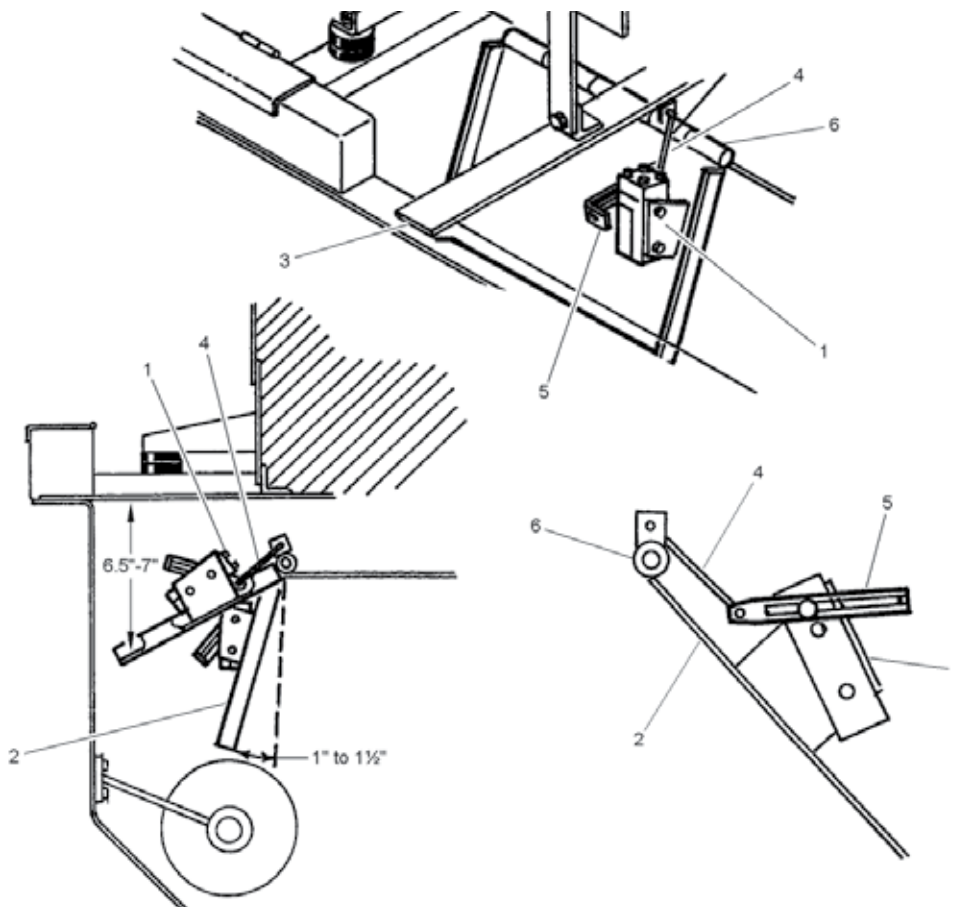

Figure 5-14. Conveyor Micro-Switch Location
In order for the conveyor's start and stop to occur at the correct position, small adjustments may be necessary to the micro-switch (**Figure 5-14,1**) located on the conveyor flap (**Figure 5-14,2**). There are two positions of the conveyor flap: one upper, shutting the conveyor OFF, and one lower, turning the conveyor ON. Read the following procedures carefully, referring to the figures as needed.
1. Raise the conveyor flap (**Figure 5-14,2**) 6-1/2 to 7 in. (16.5 to 17.8 cm) from bottom of the tank mount support (**Figure 5-14,3**). Secure conveyor flap so it remains in this position. If micro-switch clicked OFF within the 6 1/2 to 7 in. (16.5 to 17.8 cm) limit, no further adjustment is required to the upper travel.
2. If the micro-switch (**Figure 5-14,2**) did not click OFF, adjustment is needed. Remove the linkage (**Figure 5-14,4**) attaching the actuator arm (**Figure 5-14,5**) to the eyelet on the flap pivot housing (**Figure 5-14,6**).